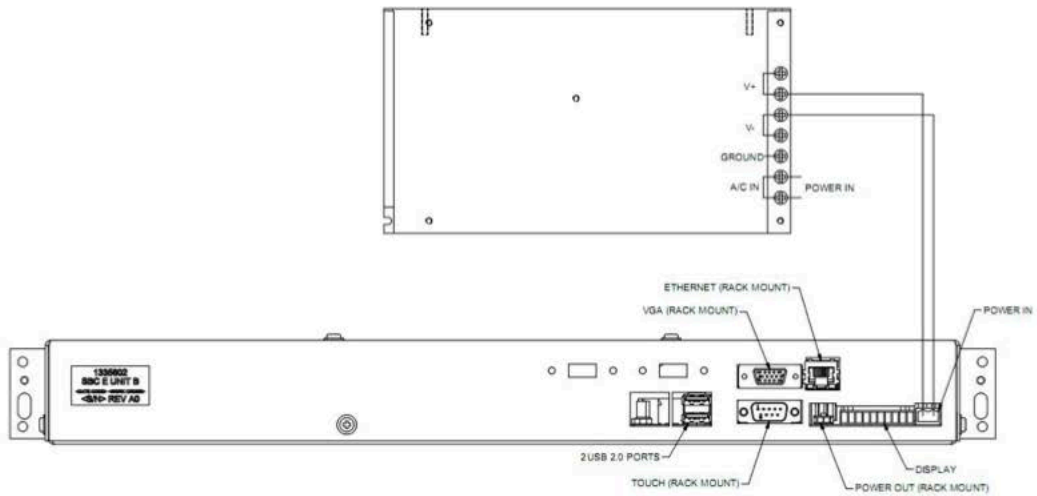
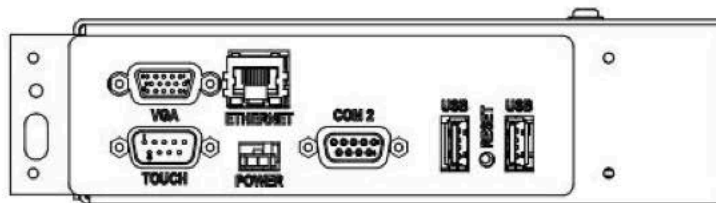

Figure 2. Rear view of the SBC unit and power supply
Figure 3. Detail of the front side of the SBC unit
The SBC unit contains the single board computer (SBC), hard drive, and a circuit board assembly that distributes power to the components of the 8800 and provides the interface between the SBC and the control module. The SBC unit has connectors coming out of two sides. The front side is shown above in Figure 3. The back side is shown in Figure 2. Refer to these two figures for the connector descriptions shown below:
- Display** The display connector located in the back of the SBC unit is the connection point to a control module. The pins of this connector are numbered left to right when facing the back of the SBC unit as shown in Figure 2. The 8800 does not need the power pins in the display cable, but they can be connected and energized without harming the SBC unit.
The following four connectors are part of the monitor connector cluster. They are located either on the front of the SBC unit for an SE version (as shown in Figure 3), or in the back of the SBC unit for a rack version (as shown in Figure 2). A special cable harness that contains all of the cabling necessary to run the monitor in one sheath has been designed and built.